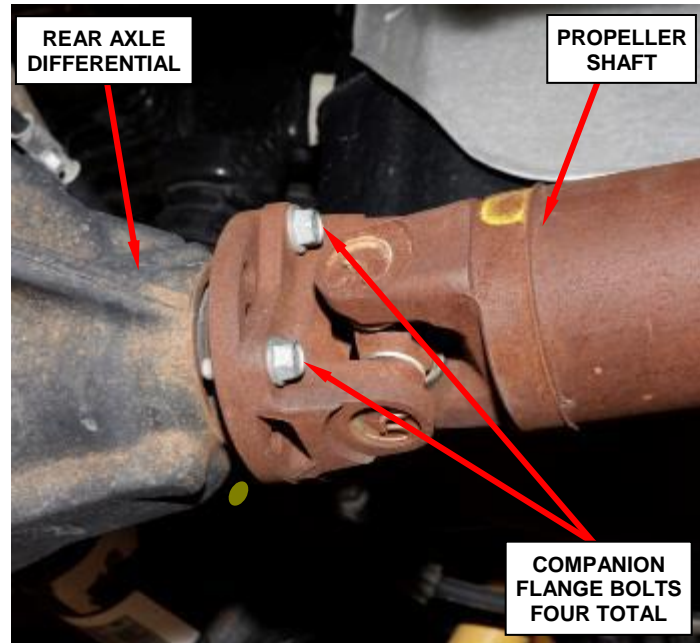

Figure 8 – Propeller Shaft Bolts
9. Remove and **DISCARD** the rear propeller shaft companion flange bolts (Figure 8).